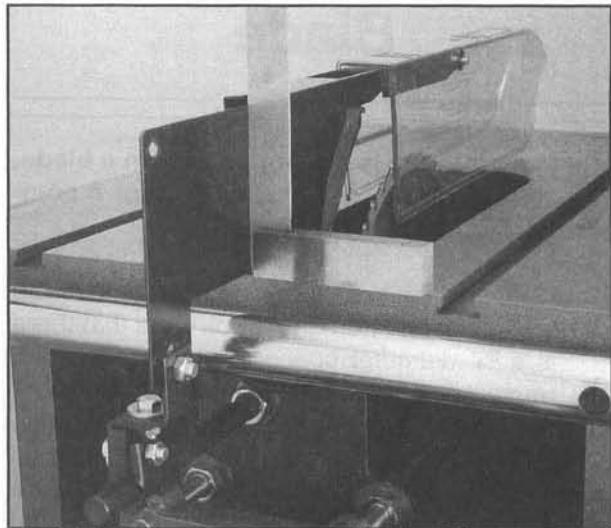

Figure 24.
5. Using a machinist's or combination square, align the face of the splitter perpendicular to the surface of the saw table. **Figure 24.**